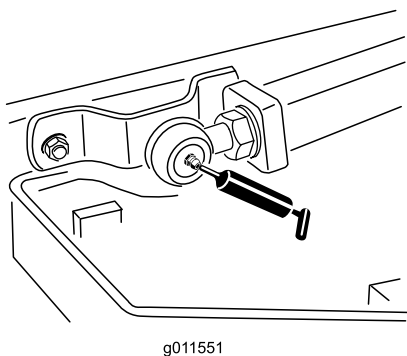

Figure 67
- 2 lift-arm-ball joints (Figure 67)